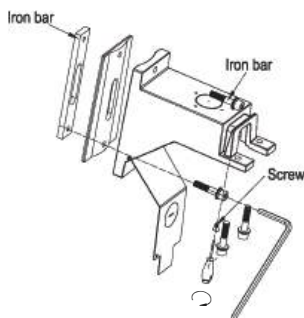

Fig 24
1. Use a wrench to unscrew the bolts and remove the strips. Use screwdriver to loose the screws to open the cover plate, as shown in Figure 24.